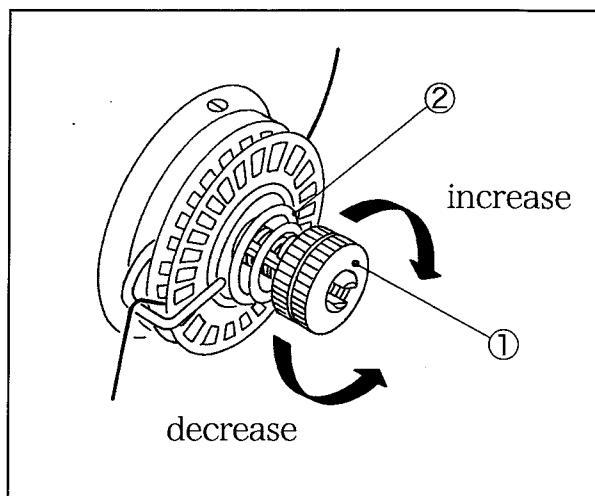

Fig.21
To adjust the upper thread tension, turn the nut ① in Fig.21.
- To increase the tension, turn the nut ① clockwise.
- To decrease the tension, turn the nut ① counterclockwise.